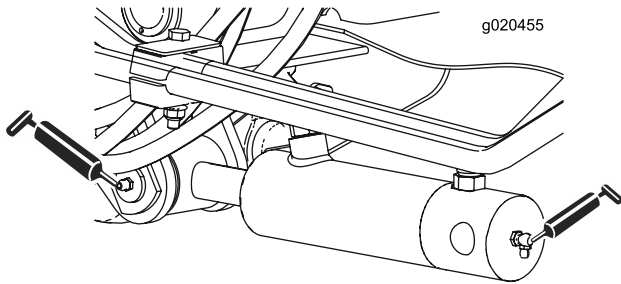

Figure 41
- Lift arm cylinder bushings (2 each) (Figure 41)